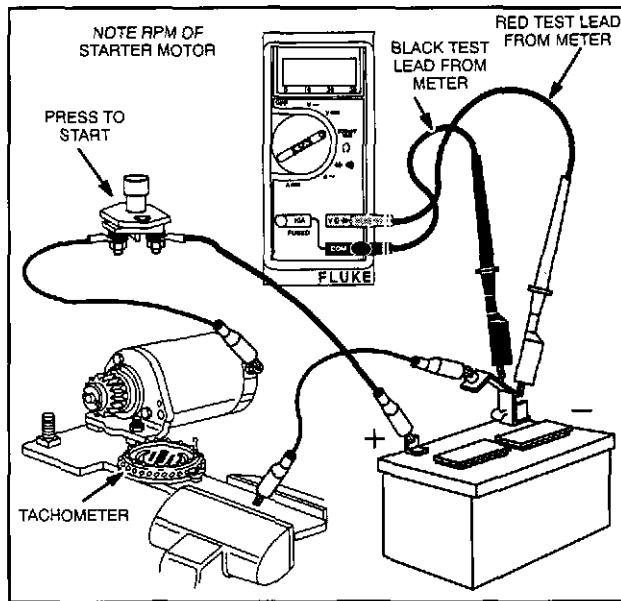

Fig. 9 - Testing 12 Volt Starter Motor Digital Multimeter & DC Shunt
1. The DC Shunt **MUST** be installed on the **negative (-)** battery terminal as shown in Fig. 9.